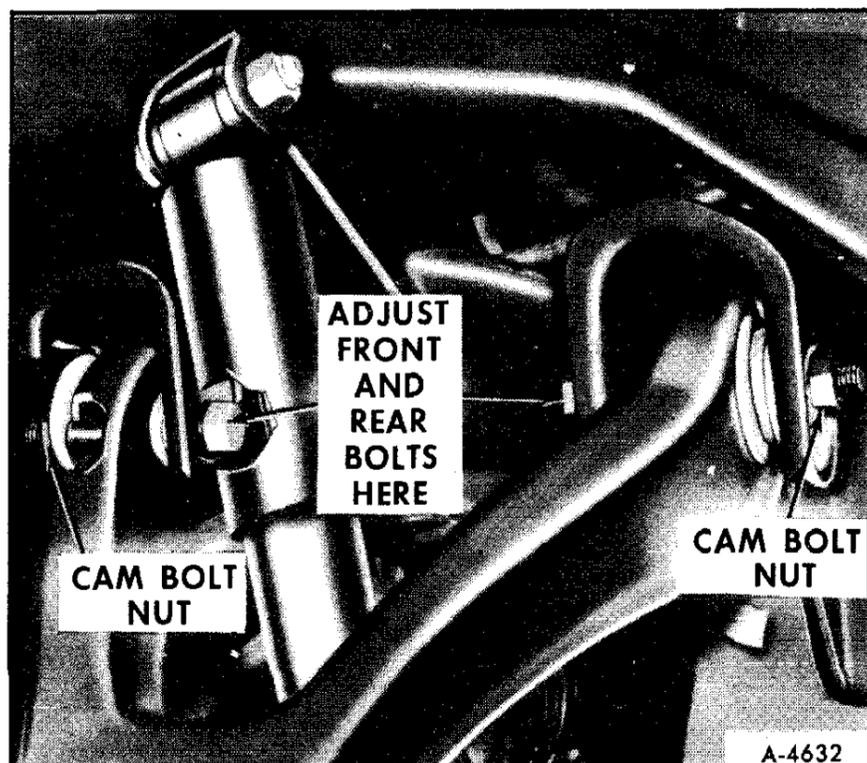

Figure 14—Upper Control Arm Attachment
2. Disconnect upper shock absorber attaching bolt (figure 14).